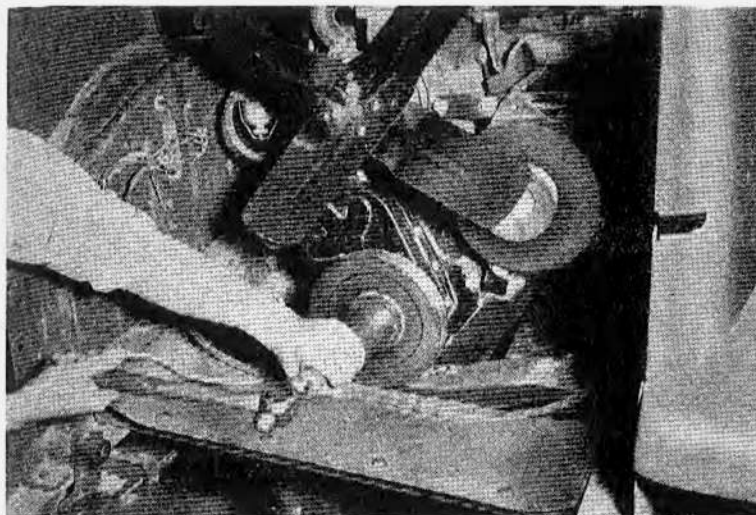

Figure 43 – Crankshaft Pulley Installation
(6) Place pulley replacer (BX SST-1023) on crankshaft pulley, and by hitting the replacer with a hammer, the pulley can be easily driven in (Fig. 43). Drive the pulley onto shaft until it bottoms against crankshaft gear.
(7) If the engine had been raised when removing the crankshaft pulley, lower the front end of engine and tighten down support member to front end plate bolts over support spacer. Tighten nuts securely and install cotter pins.